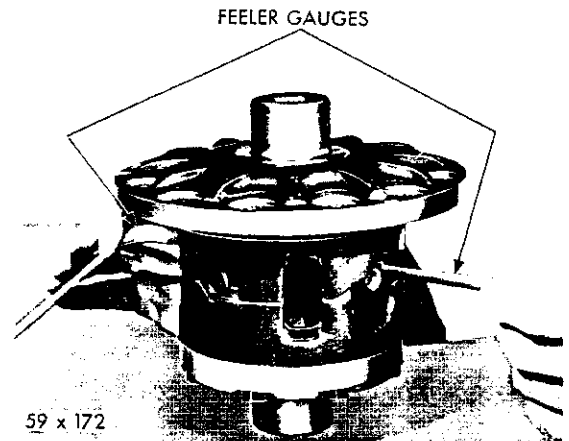

Fig. 45—Measuring Clearance of Pinion Shaft and Cap
(10) Invert the differential to rest on the opposite hub. Measure the opposite pinion shaft in the like manner to the same specifications (Fig. 45).